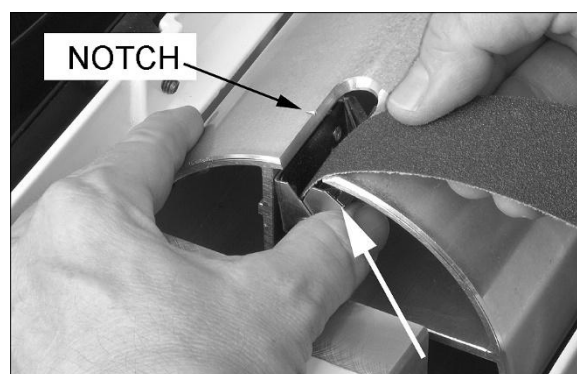

Figure 6-4
2. Press fastener lever (Figure 6-4) on outboard (left) end of drum, and insert tapered end of abrasive through slit in fastener, as shown. Align tapered edge of abrasive strip with left edge of drum. Insert enough strip so that the right edge aligns with the reference notch; this will ensure the proper length of strip to be secured at the opposite end of the drum.